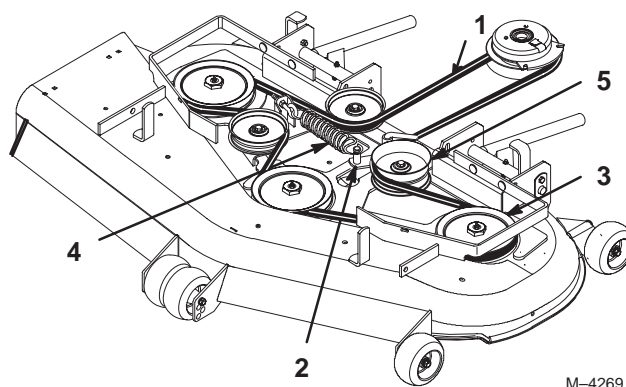

Figure 61
4. Remove belt. Start at outside pulley and rotate off (Fig. 61).
7. Reinstall idler pulley and route belt onto other pulleys (Fig. 61).